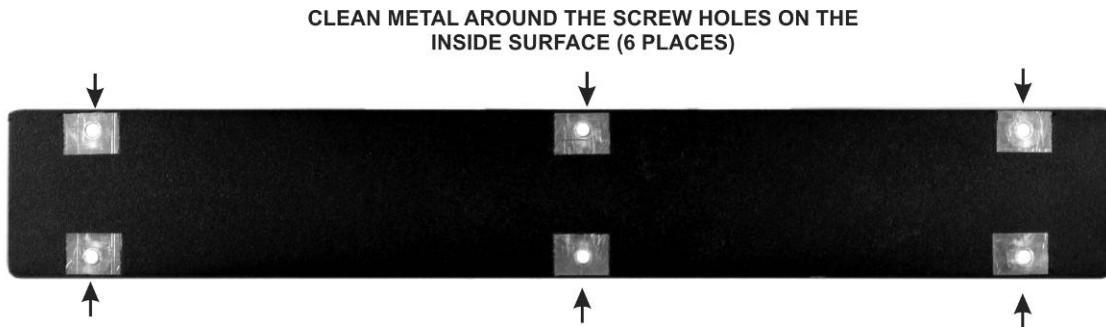

Figure 33. Preparing Side Panels for Installation.
- Locate the side panels and clean any tape or residue from the areas around the screw holes on the inside surface as shown in Figure 33. Check and clean both side panels.